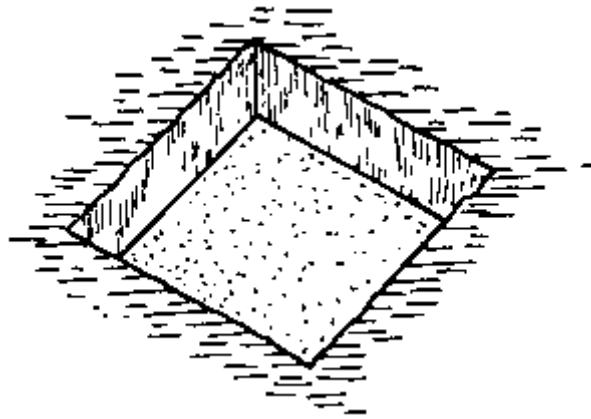

Fig. 1
- SINGLE FOUNDATION: This is for columns, pillars and poles, if they are detached from the building (Fig. 1).